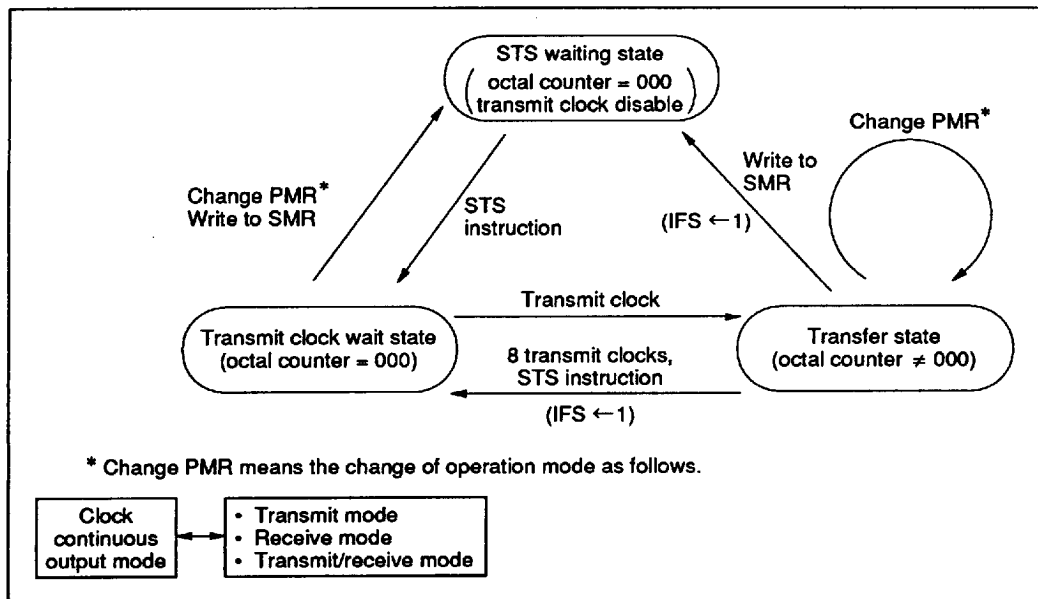

Figure 19 Serial Interface Operation States
**Operating State of the Serial Interface:** The serial interface has three operating states: the STS waiting state, transmit clock wait state, and transfer state, as shown in figure 19.